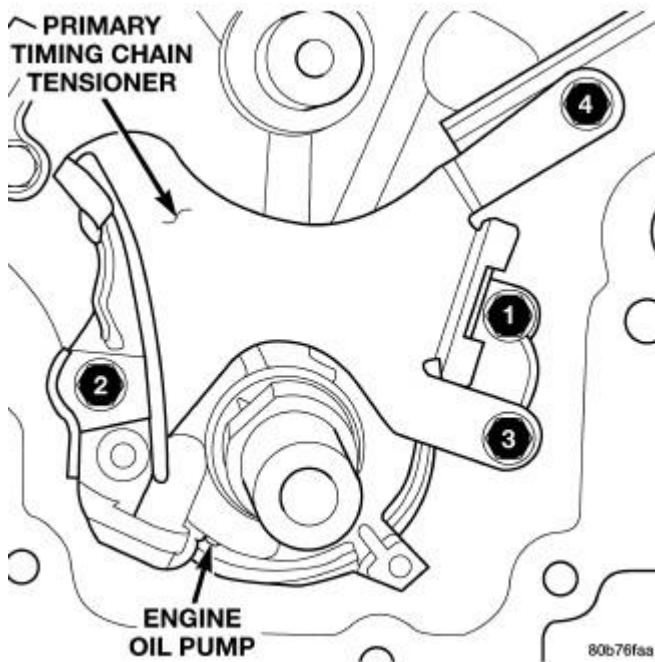

Fig. 133: Oil Pump And Primary Timing Chain Tensioner Tightening Sequence
3. Tighten the oil pump and primary timing chain tensioner retaining bolts to 28 N.m (250 in. lbs.) in the sequence shown in illustration. Refer to **Fig. 133**.